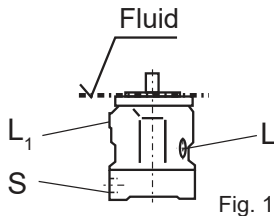

Fig. 1
- a) If the minimum fluid level is equal to or above the pump mounting surface leave ports "L", "L1" and "S" open (see Fig.1).